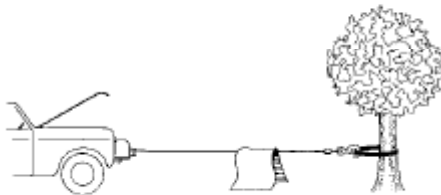

Figure 6
10. If a wire rope failure should occur, the cloth will act as a damper and help prevent the rope from whipping. (See Figure 6)